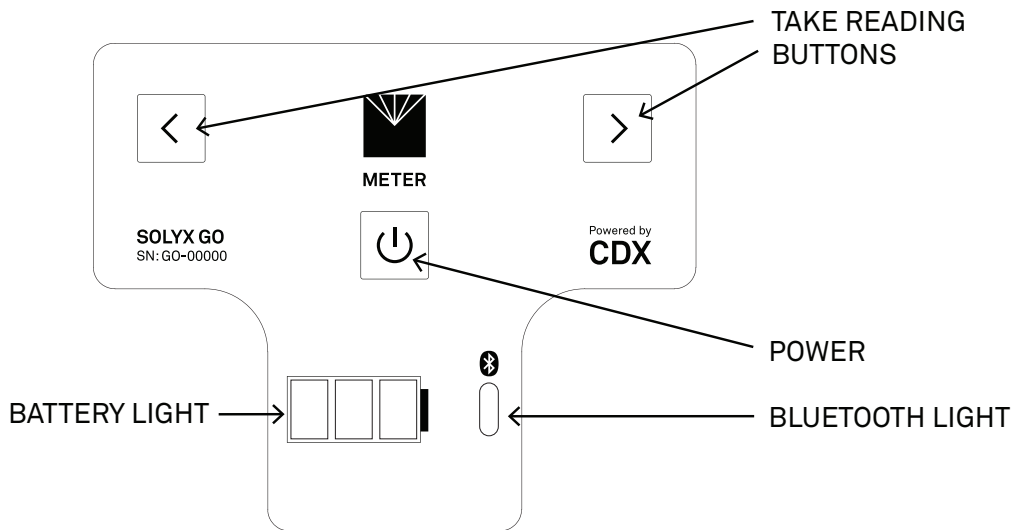

Figure 1 Control panel overview
Press the power button to turn on the SOLYX GO (Figure 1). Press and hold power button to turn off. Check the battery level light indicator to determine when charging is necessary (battery level can also be checked on the SOLYX GO app).
5. Press one of the two **Take Reading** buttons on the control panel (Figure 1).